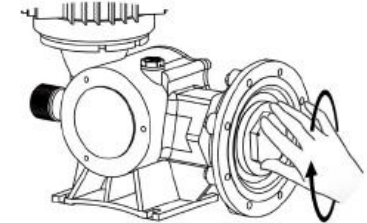

Figure 9
- ◆ Clean the transition section, apply grease to the push rod, protect the metal parts from corrosion, and tighten the new diaphragm assembly clockwise. (See figure 9).